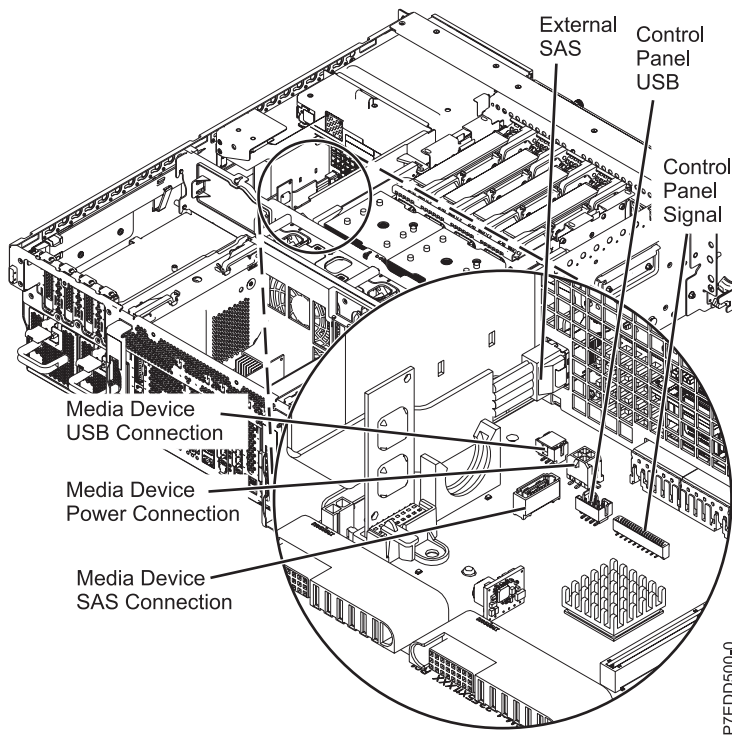

Figure 51. Connecting the internal cables
17. Connect the internal cables to the backplane and replace the SPCN cable to the rear of the chassis. See Figure 51.